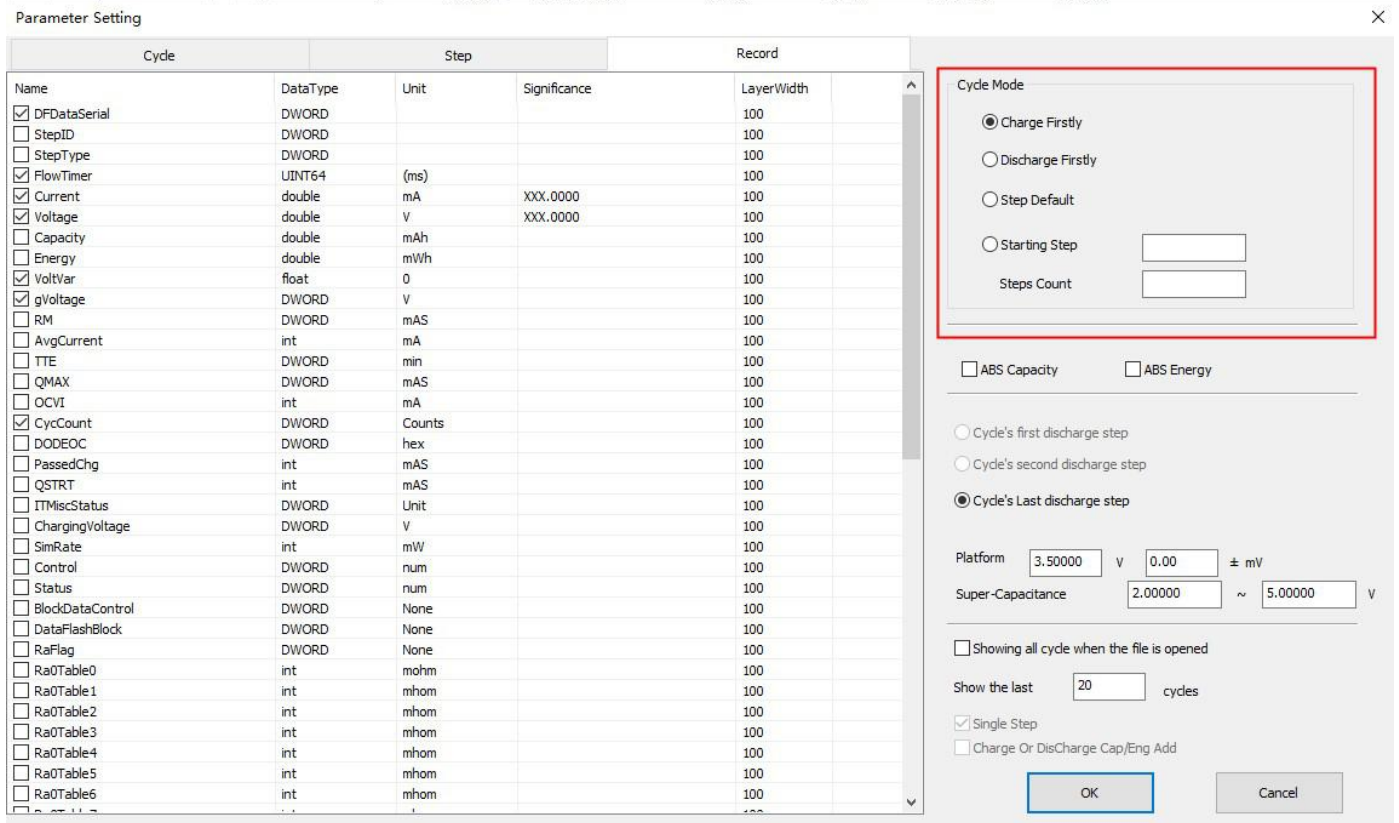

Figure 6-30 Cycle layer parameter setting
- On the right side of the cycle layer parameter setting screen, you can set the functions of the cycle layer, including cycle layer statistics mode, ultra-capacitor voltage range, platform voltage, and cycle time display, as shown in Figure 6-30: